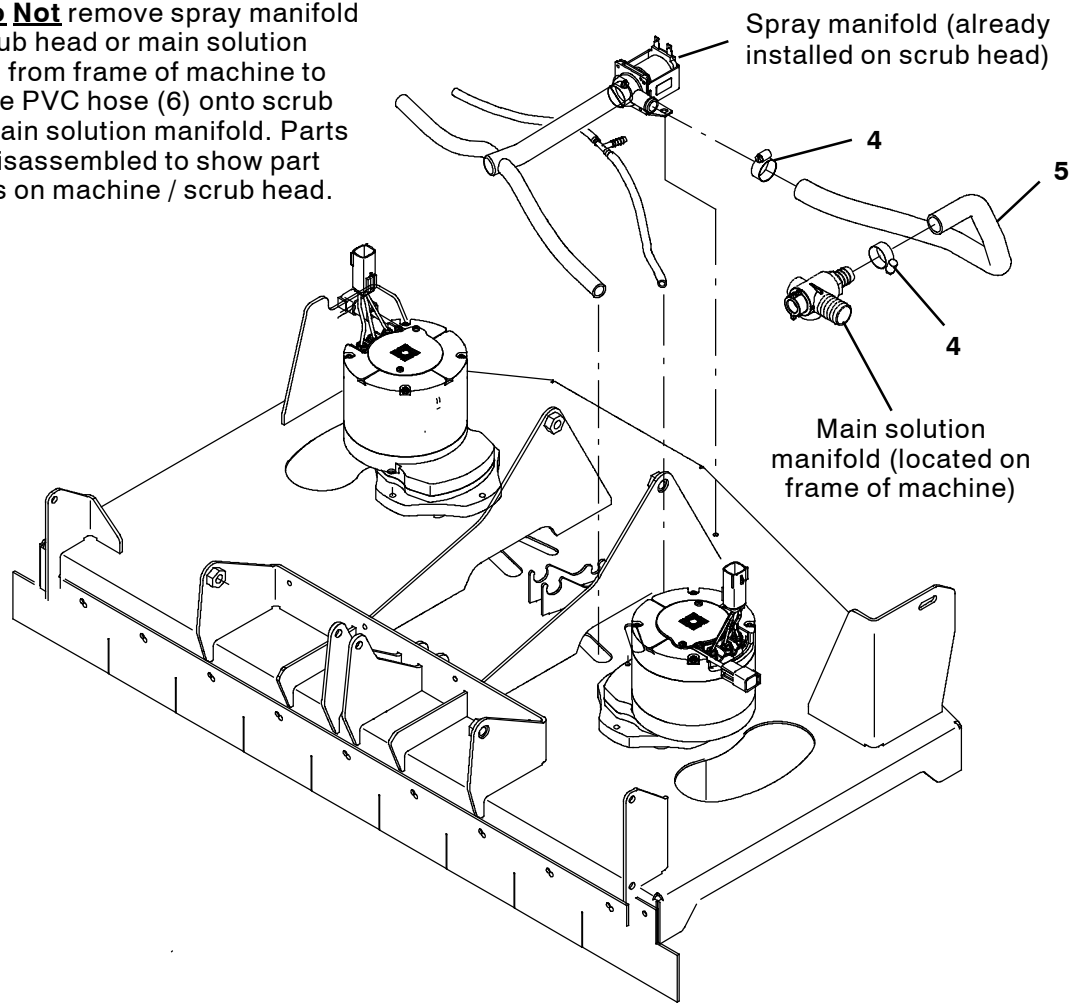

FIG. 3
12. Use two hose clamps (4) to connect the 36 in. (914 mm) PVC hose (5) to the water solenoid valve on the scrub head and the main solution manifold on the frame of the machine. (Fig. 3)